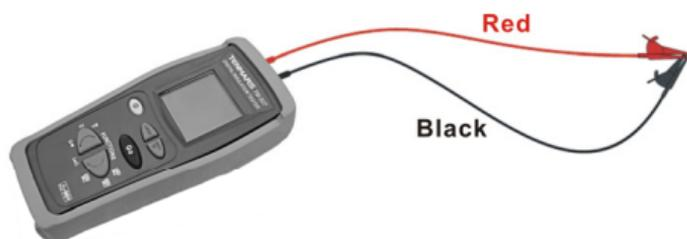

Fig. 7: Connection of the instrument's terminals during calibration procedure.
2. Short-circuit the cable ends with each other as shown in Fig. 7 making sure that the metallic parts of test probes and crocodiles are in good touch.